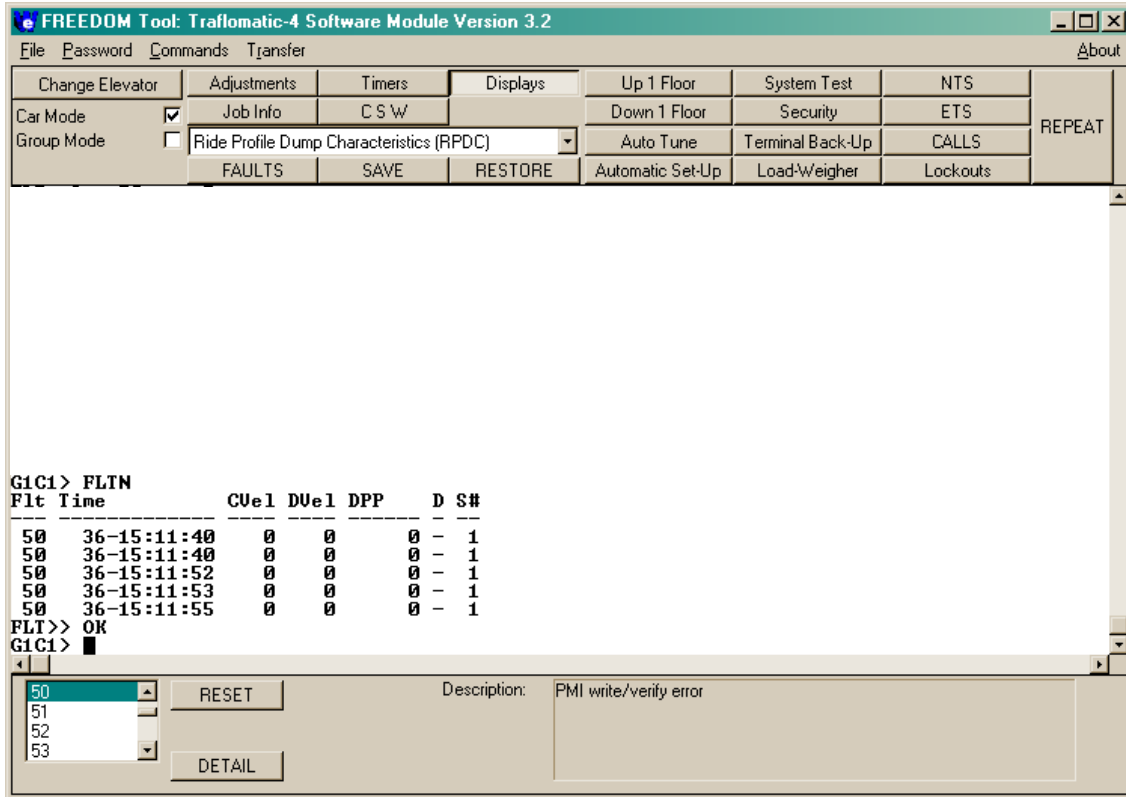

Figure 60
**FAULTS :** A log of up to 23 faults is stored within the elevator controller at any single time. This fault log can be viewed by selecting the **FAULTS** pushbutton located underneath the Selection Box. The **FAULTS** pushbutton sends the FLT command to the elevator controller for the retrieval of the fault log. Referring to Figure 60, the Fault Log is shown within the Terminal Window after FLT has been transmitted to the elevator system. The faults in the log are numbered 0 through 23 with 0 being the most recent fault and 23 being the oldest fault on the log. Each fault is logged with a fault code and a number of times the fault has occurred. When **FAULTS** is selected on the Feature Bar, the Definition Bar is updated to provide the user assistance in viewing the faults. Located on the Definition Bar is a scrolling list that contains the known faults for a Traffomatic-III and Traffomatic-IV elevator controller. To view what any fault means, the user simply finds the fault code within this list by scrolling up or down through it and selecting the fault code. In the fault log, the fault code is the number that immediately follows the = symbol. When a fault code has been selected the description of the fault will appear to the right of the Definition Bar in the area labeled Description. It is important to note that only the description of the fault will appear here. WORLD electronics cannot provide technical information in print form on causes of any fault codes. Also located on the Definition Bar are two pushbuttons. These buttons are **RESET** and **DETAIL**. They are described as follows: